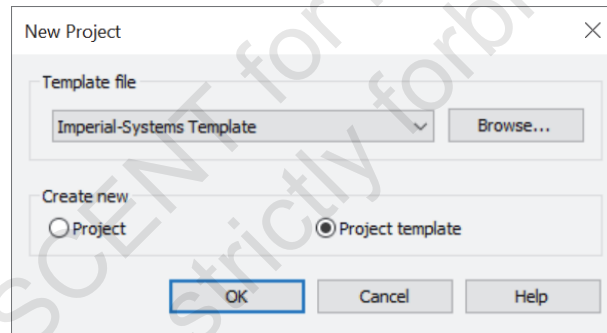

Figure 1–32
3. In the *Create new* area, select **Project template**, as shown in Figure 1–32, and click **OK**.